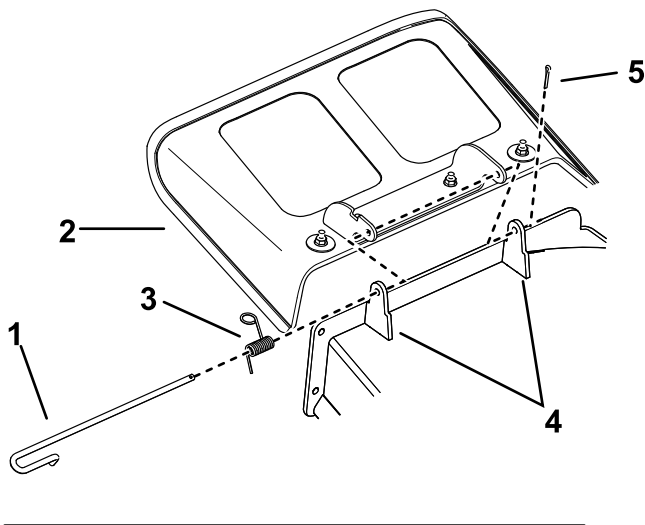

Figure 76
1. Disengage the spring from the notch in the deflector bracket and slide the rod out of the welded deck brackets, spring, and discharge deflector (Figure 76).